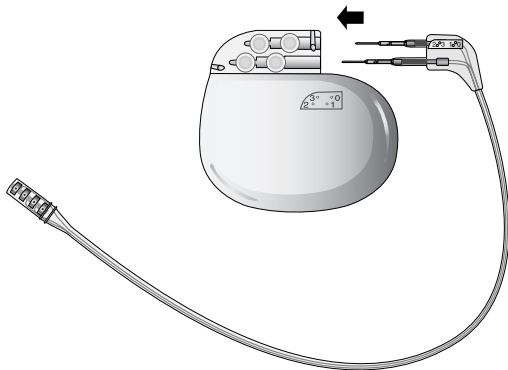

Figure 1. Insert the extension connector pins fully into the neurostimulator.
3. Insert the appropriate extension connector pins into the appropriate neurostimulator socket until they are seated fully within the connector block (Figure 1).